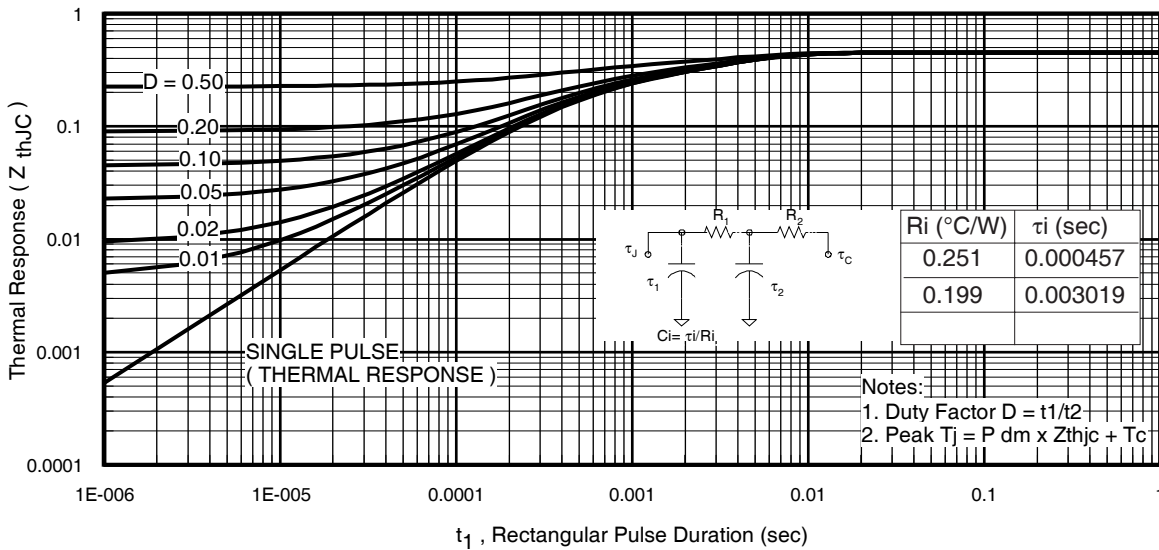
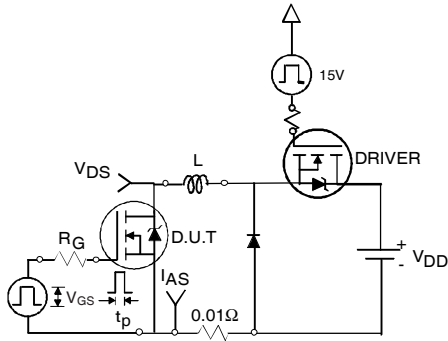

Fig 11. Maximum Effective Transient Thermal Impedance, Junction-to-Case
Fig 12a. Unclamped Inductive Test Circuit
- ① Repetitive rating; pulse width limited by max. junction temperature. (See fig. 11).
- ② Limited by T_{Jmax} , starting $T_J = 25^\circ\text{C}$, $L=0.11\text{mH}, R_G = 25\Omega, I_{AS} = 75A, V_{GS} = 10V$. Part not recommended for use above this value.
- ③ $I_{SD} \leq 75A, di/dt \leq 340A/\mu s, V_{DD} \leq V_{(BR)DSS}, T_J \leq 175^\circ\text{C}$.
- ④ Pulse width $\leq 1.0\text{ms}$; duty cycle $\leq 2\%$.
- ⑤ $C_{oss \text{ eff.}}$ is a fixed capacitance that gives the same charging time as C_{oss} while V_{DS} is rising from 0 to 80% V_{DSS} .
- ⑥ Limited by T_{Jmax} , see Fig.12a, 12b, 15, 16 for typical repetitive avalanche performance.
- ⑦ This value determined from sample failure population. 100% tested to this value in production.
- ⑧ This is applied to D²Pak, when mounted on 1" square PCB (FR-4 or G-10 Material). For recommended footprint and soldering techniques refer to application note #AN-994.
- ⑨ R_θ is measured at T_J of approximately 90°C .
3. Equation below based on circuit and waveforms shown in Figures 12a, 12b.
$Z_{thJC}(D, t_{av})$ = Transient thermal resistance, see figure 11)